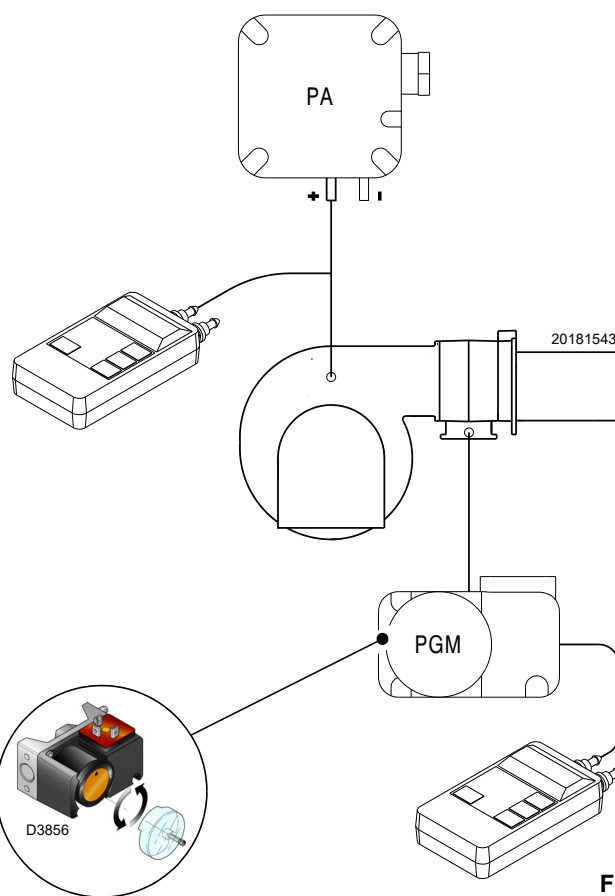

Fig. 35
- Adjust the maximum gas pressure switch (Fig. 35) to the end of the scale.
Adjust the maximum gas pressure switch (Fig. 35) after making all other burner adjustments with the maximum gas pressure switch set to the end of the scale.